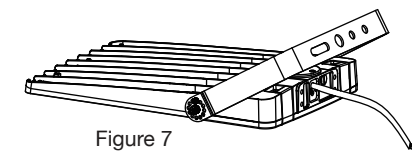

Figure 7
- Step 1: First install two big screws (Figure 7)
- Step 2: Install two small screws (Figure 7)